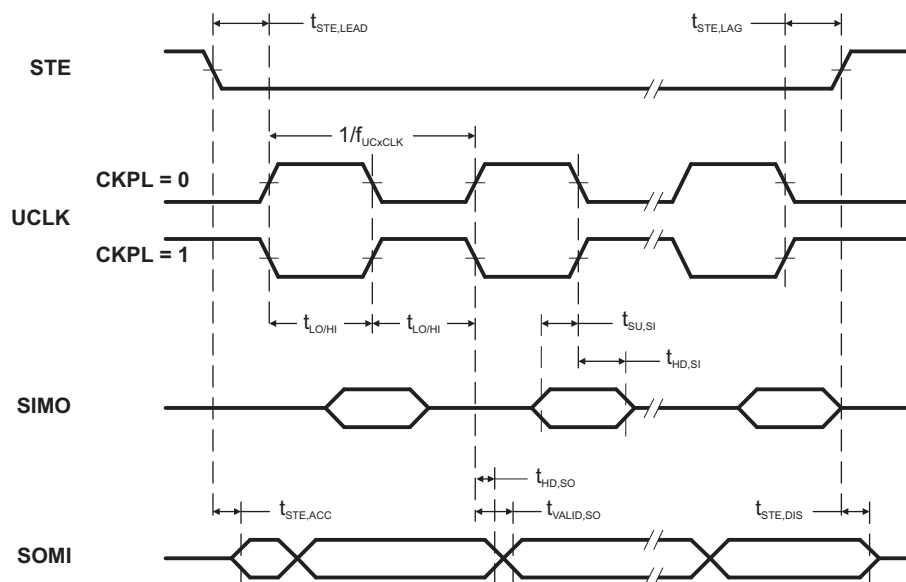
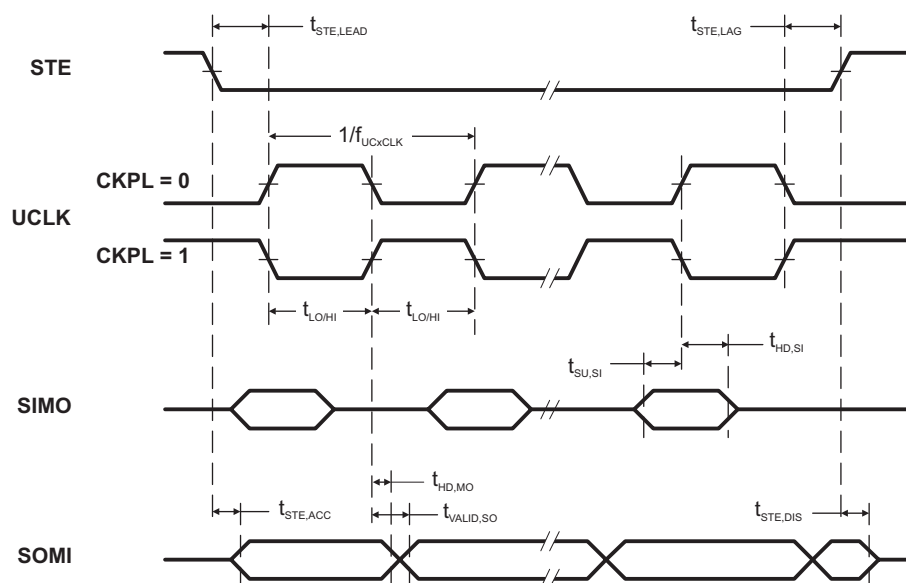

Figure 5-13. SPI Slave Mode, CKPH = 0
Figure 5-14. SPI Slave Mode, CKPH = 1
(see Note ⁽¹⁾, Figure 5-13 and Figure 5-14)
(2) Specifies the time to drive the next valid data to the SOMI output after the output changing UCLK clock edge. See the timing diagrams in Figure 5-13 and Figure 5-14.
(3) Specifies how long data on the SOMI output is valid after the output changing UCLK clock edge. See the timing diagrams in Figure 5-13 and Figure 5-14.